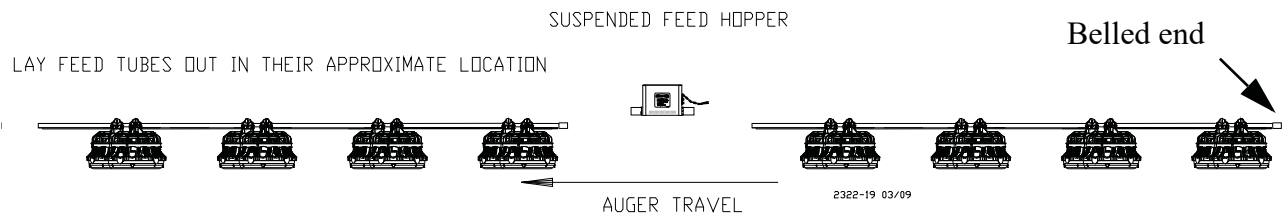

Figure 42. Tube layout
1. Position the tubes end to end in approximately the final location of the line. The feeder tubes should be installed so the expanded (belled) end of each tube points in the opposite direction of the auger travel, see **Figure 42**.